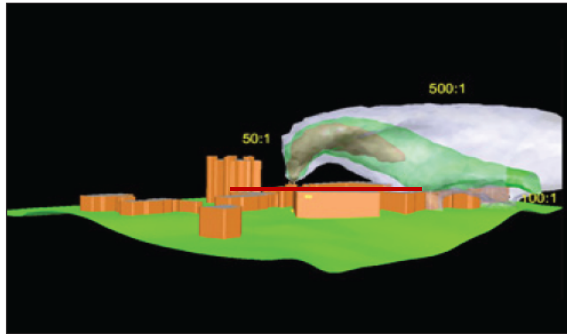

Figure 3. Vertical cross sectional diagram of the wake and cavity regions in the lee side of building. (Courtesy of M/E Engineering)
c) Stack Height: Stack heights should be consistent with good engineering practice to minimize the wake effects caused by buildings or terrain on emissions. The design of the exhaust stack and location should be done carefully to prevent exposure to building occupants and visitors or to people in frequently occupied outdoor areas such as playgrounds. The boiler's stack height must be sufficient to adequately disperse emissions from the immediate vicinity and prevent entrainment of exhaust gases and particles into the building air intakes and to minimize exposure at ground level adjacent to the building on which the stack is being located (Figure 3). Poor dispersion characteristics are generally associated with short stacks that have little plume rise. This happens when stacks are too short relative to the building height or the exhaust flow is not sufficient, resulting in the plume not escaping the building's aerodynamic effects and becoming entrained in or near the building.